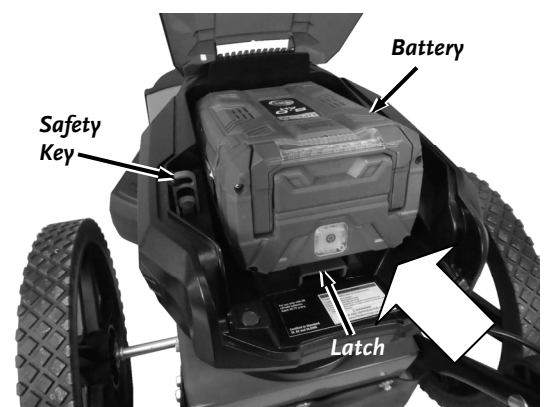

Figure 6
1. Open the Battery Cover and insert the Battery into the Mower (**Figure 6**). Ensure the Battery is pushed in completely so the Latch locks it in place.